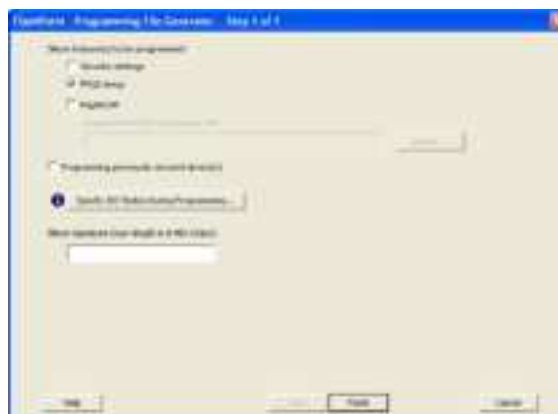

Figure 1-46 • FlashPoint Programming File Generator Dialog Box
- Click **Programming File** to open the FlashPoint Programming File Generator (Figure 1-46).